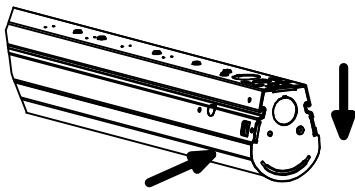
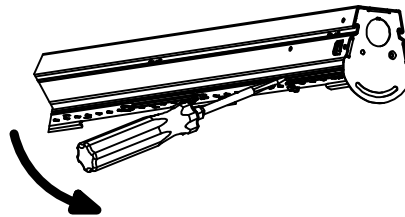

FIGURE 5: REMOVING LENS
FIGURE 6: REMOVING THE 4' LED BOARD
To remove lens from housing, push side of lens until the opposite side of lens protrudes from housing. Then pull protruding lens downward until removed as shown in Figure 5. This should be applied down the length of the fixture. To remove the LED board, start on one end of housing using a flat head screw driver in the slots provided as shown in Figure 6. **IMPORTANT:** Make sure to apply a force parallel to board to reduce the risk of damaging the board.
- 2) Remove joining end caps by spreading channel open and sliding endcap off. Then remove KOs and secure the endcaps together with customer supplied (2) #8 screws and (1) 1/2" chase nipple to create joiner as shown in FIG 6.